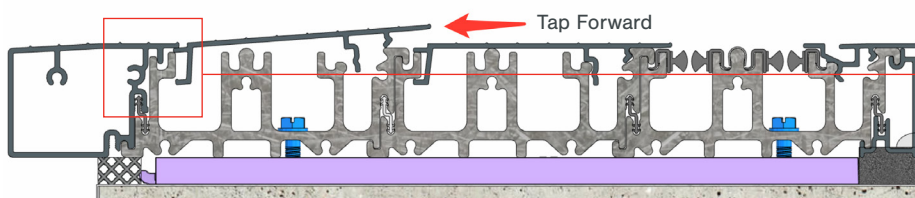

Fig 37
- Tap the cover forward from the back using a wood block and a mallet (Fig. 37). Tap the cover forward until the gap between the sill cover and sill nosing is virtually closed.